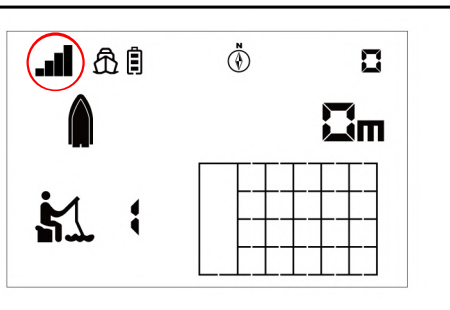

Figure 4
(2) Until the remote control indicator light stays on and the boat signal icon appears in the screen (Figure 4), it indicates successful frequency matching